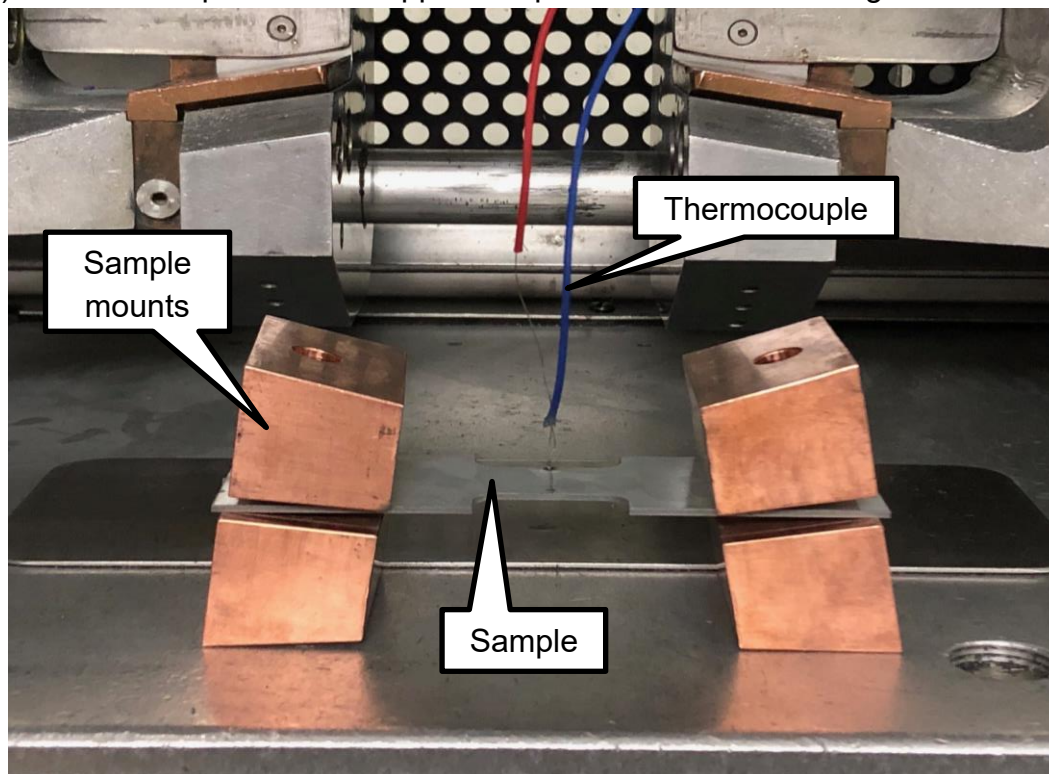

Figure 19. Copper sample mounts and mounted sample
- 5) Set the sample into the copper sample mount as seen in Figure 19.